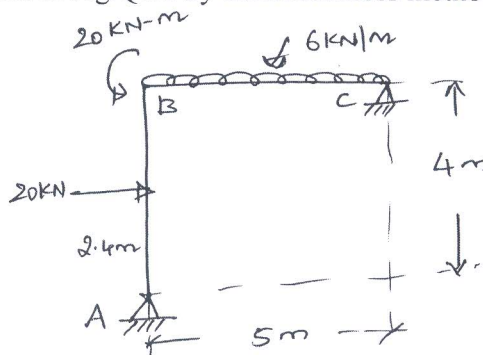

Fig.Q.10
- 10 Analyze the frame as shown in Fig.Q.10 by direct stiffness method (16 Marks)